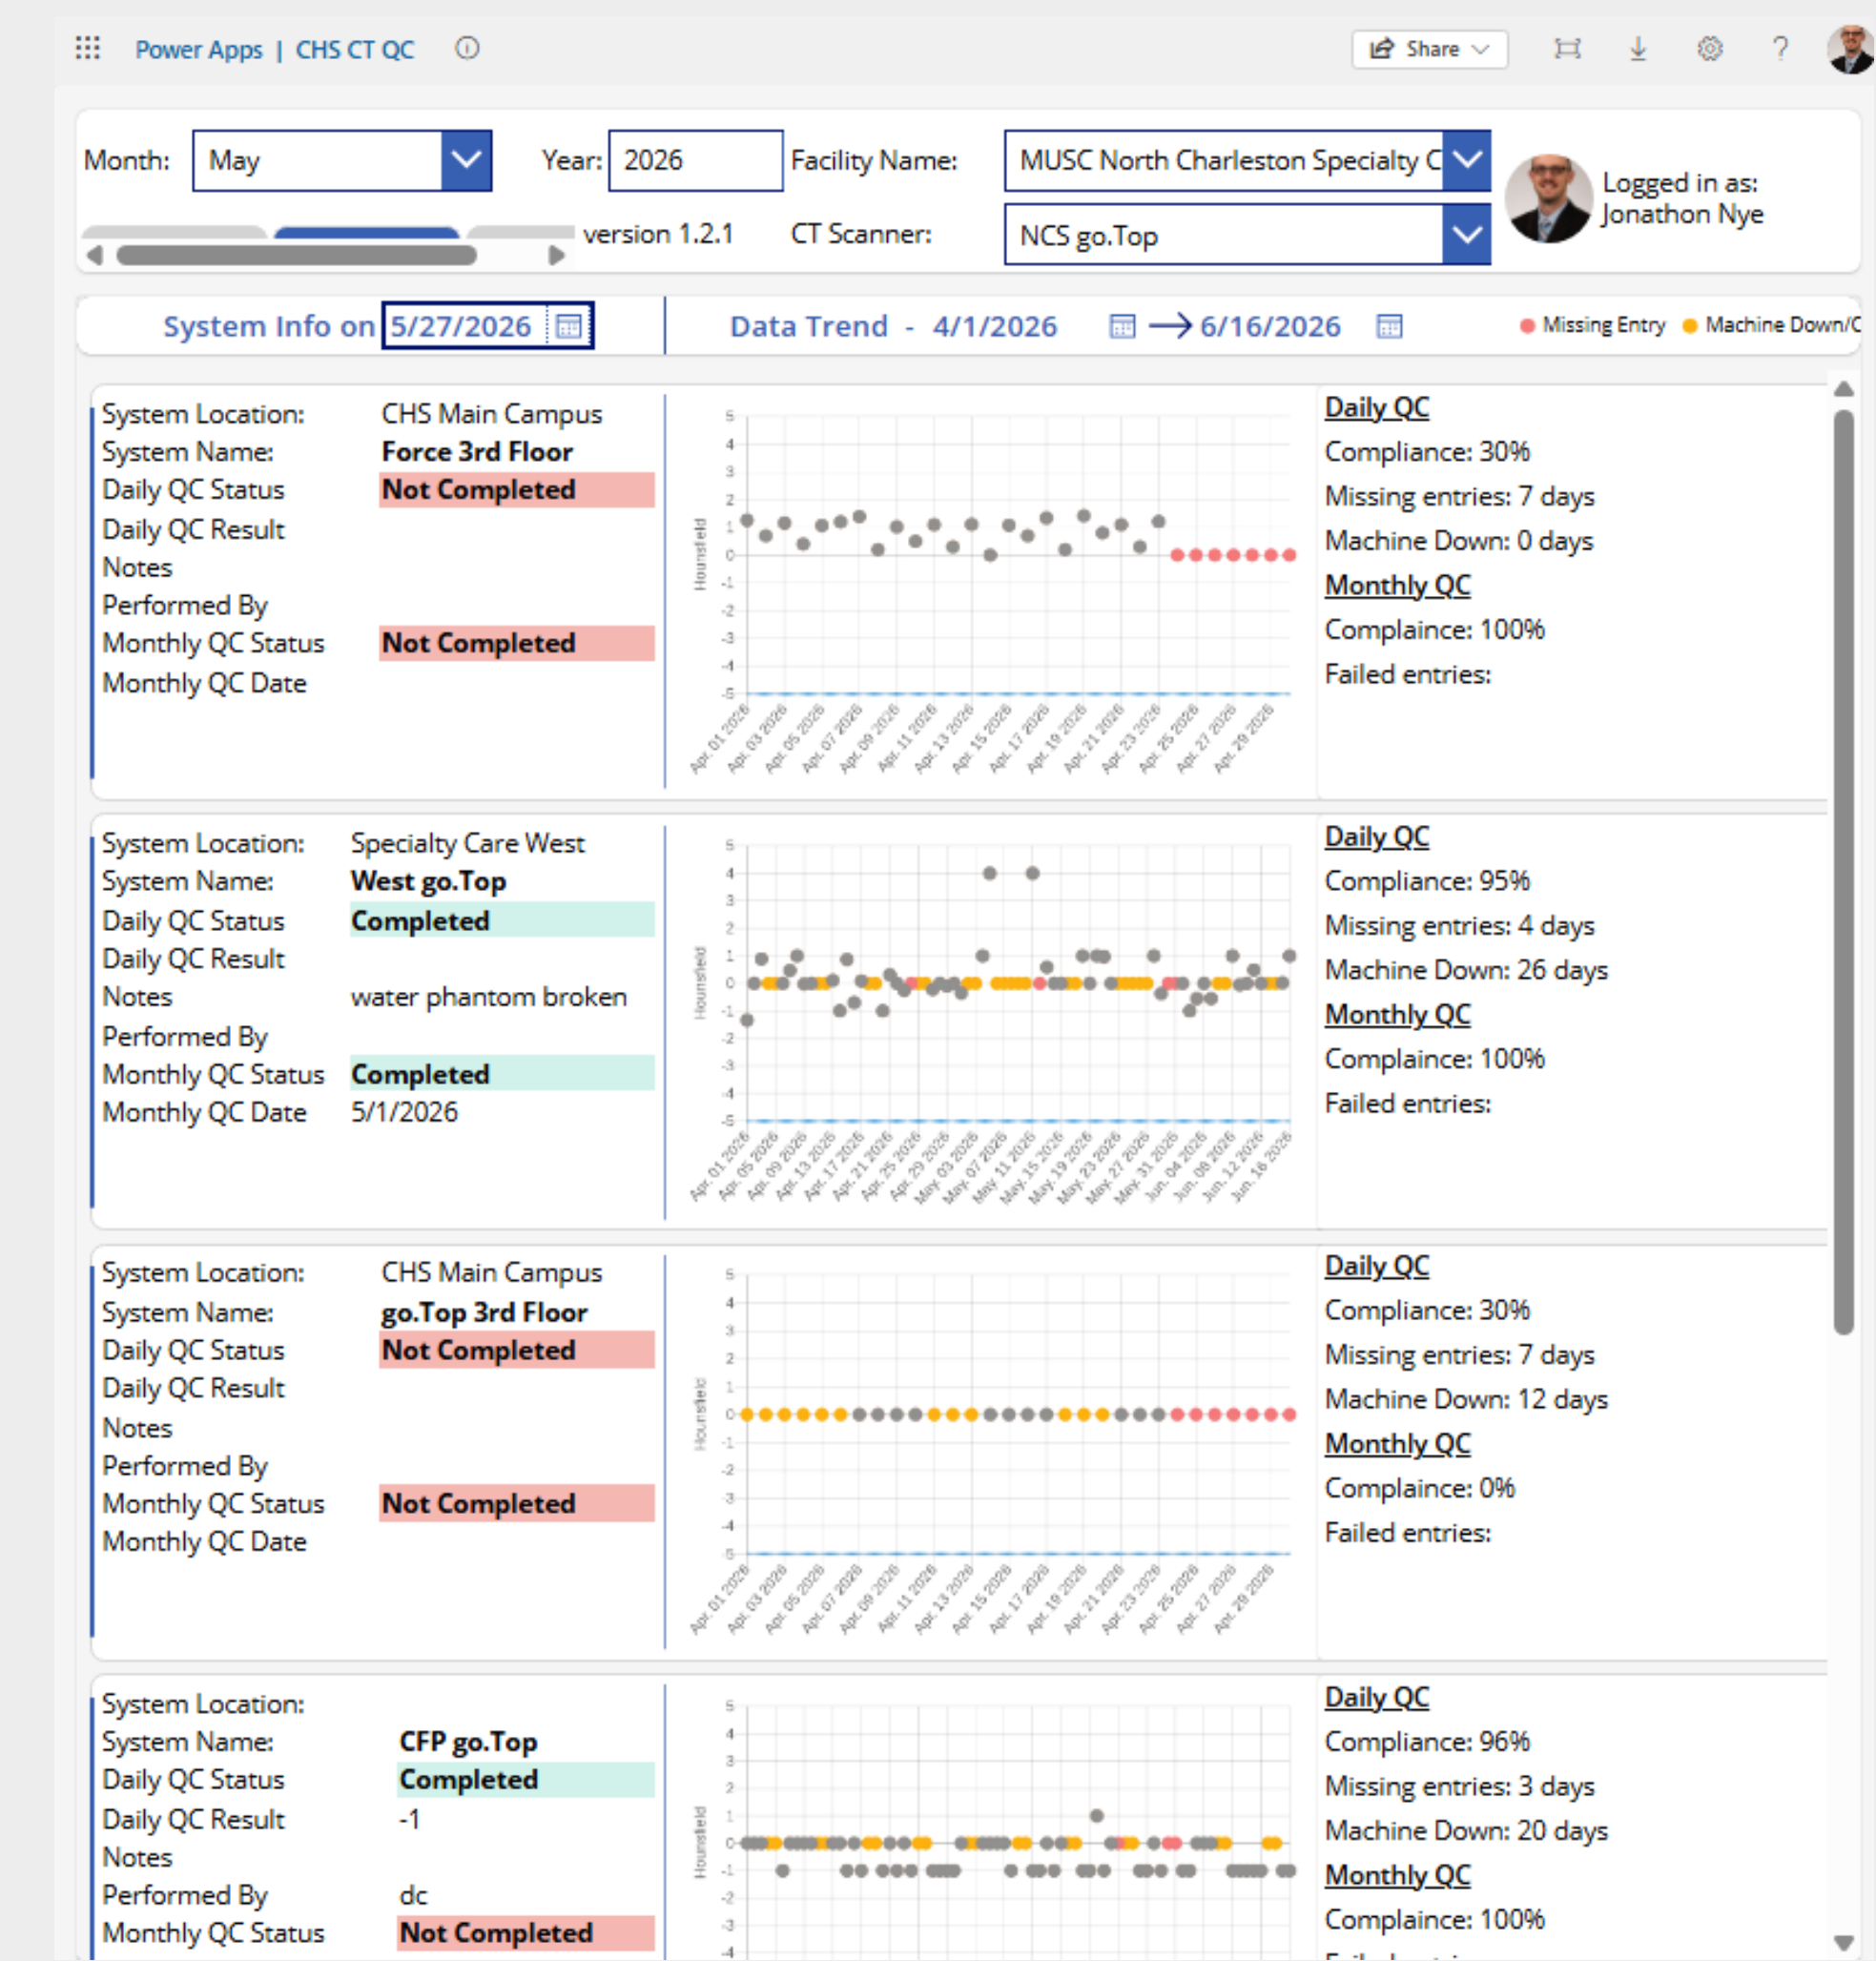

Figure 4. Web-app analytics page that shows one data card for each CT system including a trend line and percent compliance
- Data is available real-time including trend lines, missing entries, and compliance (Fig. 4)